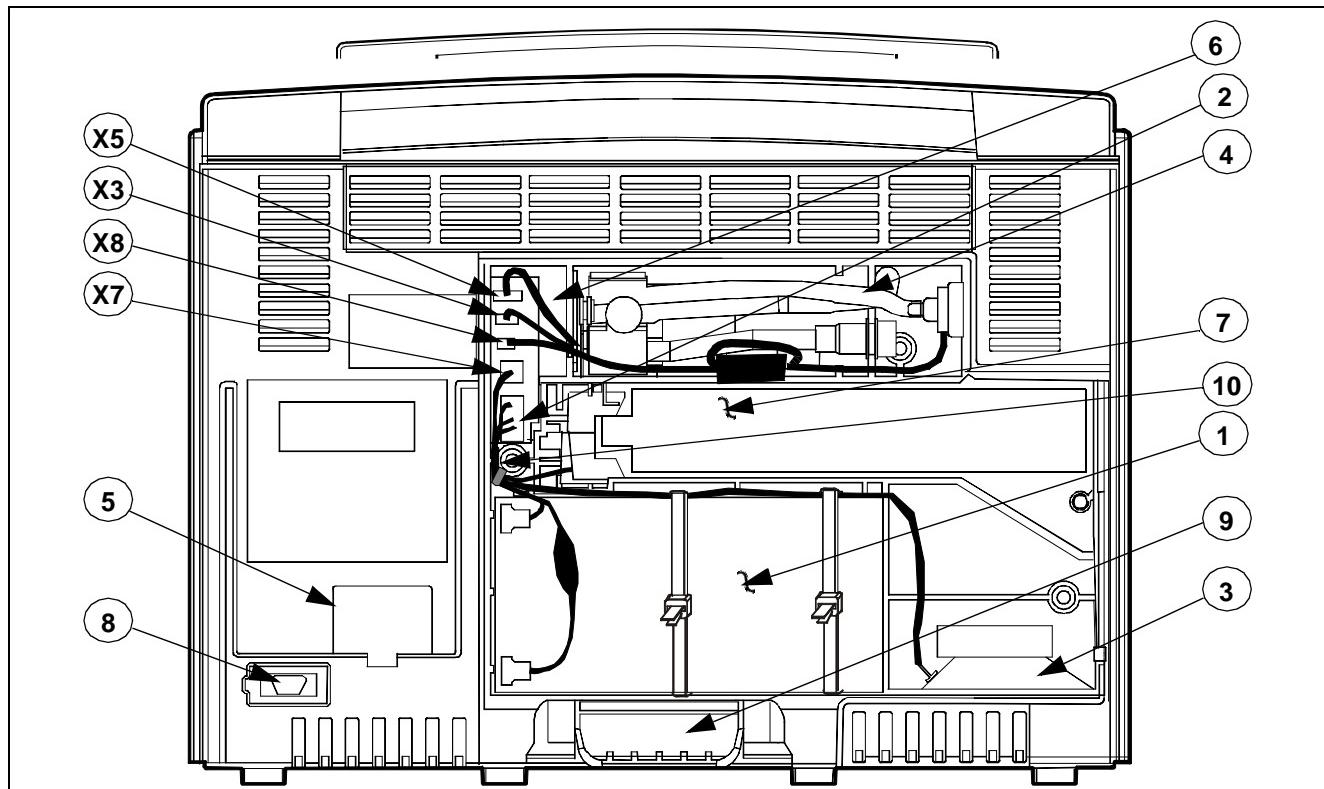

Figure 3-1 SC 7000 and SC 9000XL Rear View w/ Cover Removed
The external battery (⑦ in Figure 3-1) and main battery (① in Figures 3-1 and 3-2) are contained in compartments on the rear of the monitor. It is necessary to remove the back cover ⑥ only to replace the main battery.
The main battery (1 in Figures 3-1 and 3-2) is in a compartment below the external battery compartment behind the rear cover (6 in Figure 3-2). Use the following procedure to remove the main battery.
5) Using long-nose pliers, unplug speaker connector from X7 (see Figure 3-1 on page 40) and power cable connector (② in Figure 3-1 and in Figure 3-2) from Connector I/O PCB in connector cavity (⑥ in Figure 3-1), and remove power cable subassembly.
Sandwich wires of power cable and speaker subassembly between left side of housing and flat plastic cable guide (⑩ in Figure 3-1 on page 40) to prevent possible damage to harness when installing rear housing screws.
The NP subassembly, ④ in Figures 3-1 and 3-2, is housed in a compartment above the external battery on the back of the monitor. Use the following procedure to replace filters and/or the NP subassembly.
- 4) Refer to Figure 3-1 on page 40. Using long-nosed pliers, unplug NP subassembly cable connectors from X3 and X5 in connector cavity (⑥).